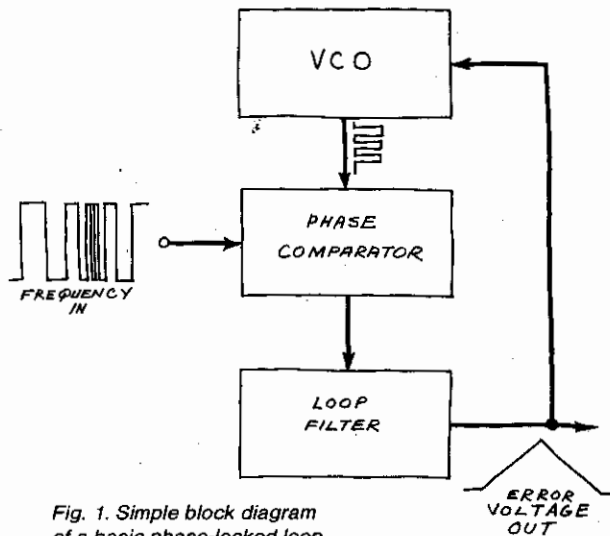

Fig. 1. Simple block diagram of a basic phase-locked loop.
**Phase-Locked Loop Basics.** The simplest PLL consists of a phase comparator, a voltage-controlled oscillator (vco), and a low-pass loop filter, all arranged as shown in Fig. 1. In operation, the vco oscillates at a frequency determined by an external RC network. This frequency is applied to one input of the phase comparator. An external signal applied to the second input of the phase comparator causes it to generate an *error voltage* whose magnitude is proportional to the difference between the external source and vco frequencies.